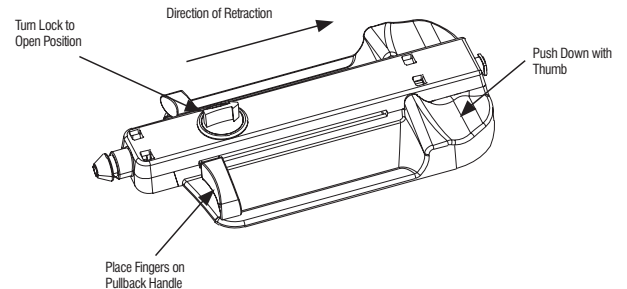

Figure 5: Deployment Demonstration
- Confirm the stent position angiographically. Adjust the position if necessary. The device is designed to be deployed using one hand. Position the thumb in the textured proximal groove and place two fingers on the pullback handle as shown in Figure 5.